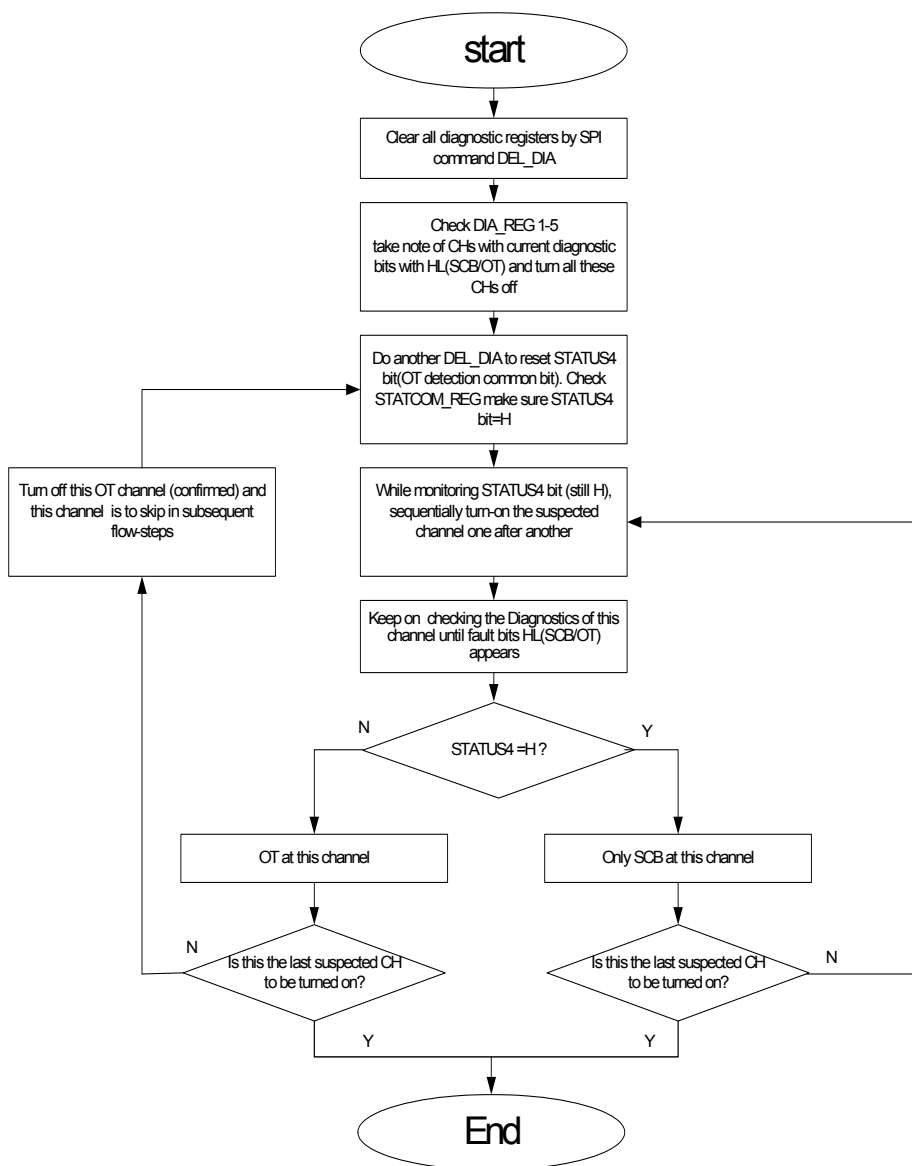

Figure 16 Differentiate a Channel between SCB and OT Fault
An over-temperature (OT) fault set the corresponding diagnostic bits of the affected channels to LH as well as the STATUS4 bit of the STATCOM_REG to L. If the user wishes to differentiate which channel has an OT instead of a SCB fault (carrying the same diagnostic bits), the flow chart shown in Figure 16 offers a simple approach to differentiate. This flow chart is only applicable when the SCL function is disabled.